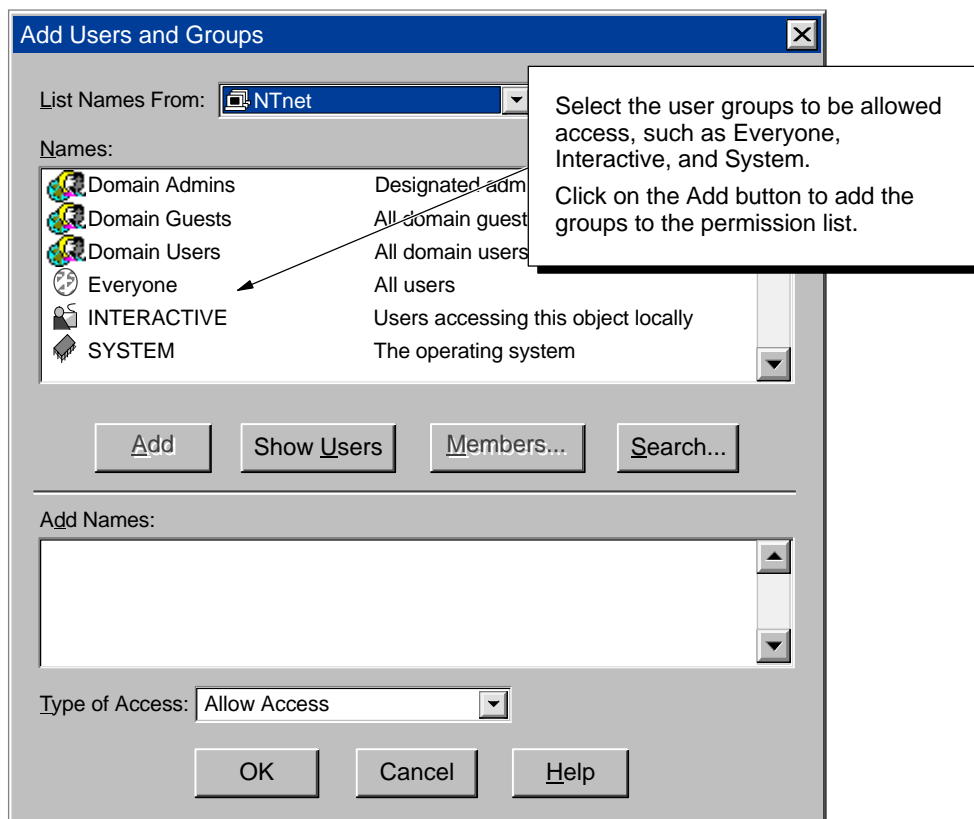

Figure D-5 Changing the Access Permissions for Users or Groups
3. Click on the Add button to display the Add Users and Groups dialog box and change the security settings for access to the server (Figure D-5).